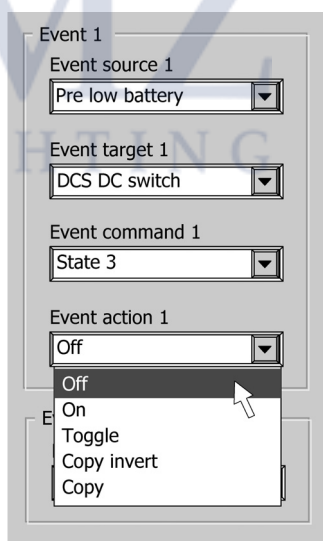

Figure 17
- Finally select the *Event action*, which is the action that should take place (Example: Go off) (figure 17).